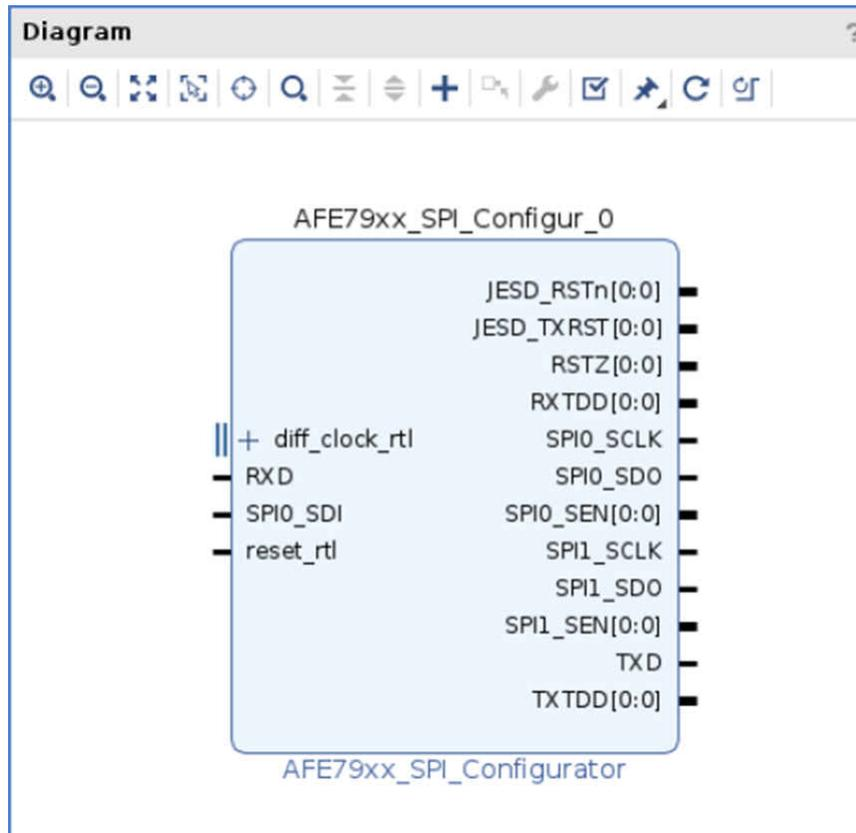

Figure 7-5. Final Diagram
6. The AFE SPI IP shows up in the block design (see Figure 7-5) if the previous steps were followed correctly.